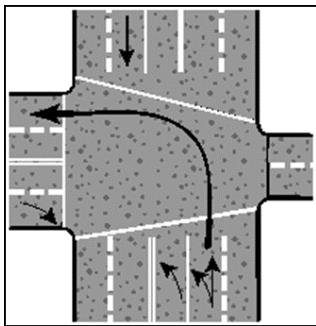

Figure 2.14
**Left Turns.** On a left turn, make sure you have reached the center of the intersection before you start the left turn. If you turn too soon, the left side of your vehicle may hit another vehicle because of off tracking. If there are two turning lanes, always take the right turn lane. Don't start in the inside lane because you may have to swing right to make the turn. Drivers on your left can be more readily seen. See Figure 2.14.